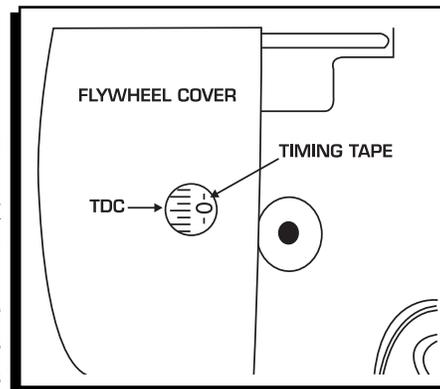

Figure 12 Timing Marks.
1. Drill a small hole in the shroud (Figure 12).